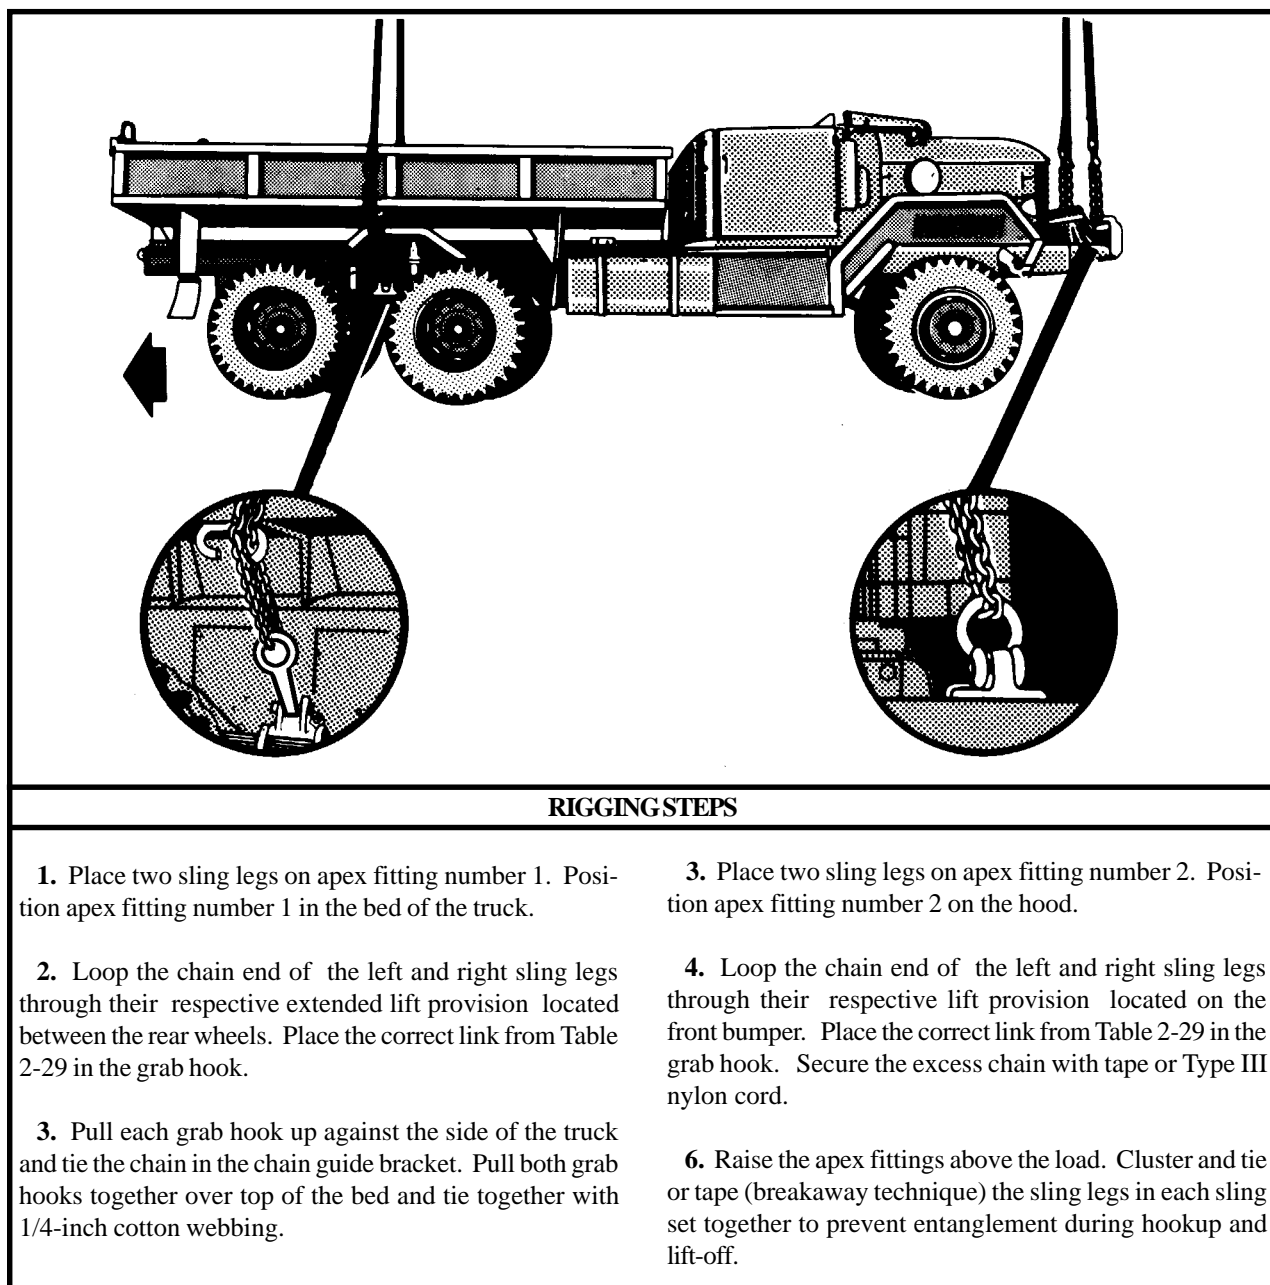

Figure 2-28. M35A3 2 1/2-Ton Cargo Truck
(2) **Rigging.** Rig the load according to the steps in Figure 2-28.